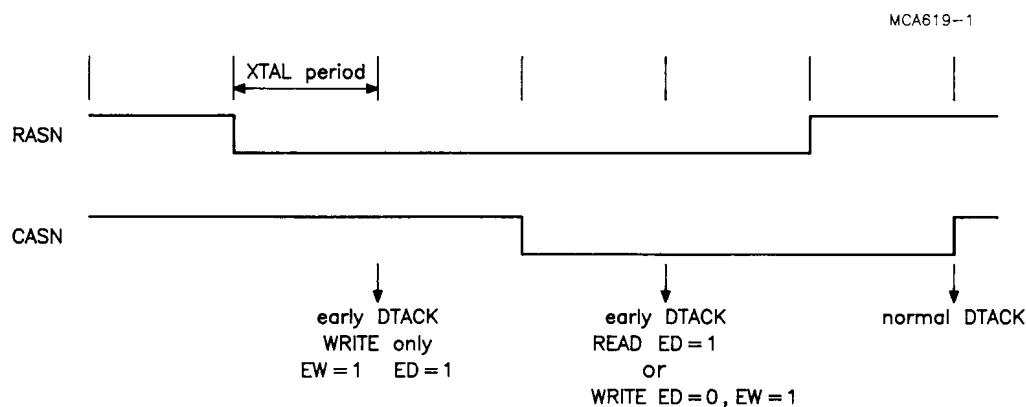

Fig.3 DTACK-assertion in FAST mode timing.
- Access to DRAM is acknowledged as soon as it is certain that data is available for the CPU. DTACKN can be advanced by two clock periods using the ED bit in the CSR register. For a Write cycle DTACKN can be advanced by 2 clock periods (4 if ED is set), using the EW bit of the CSR register. See Figures 3 and 4.